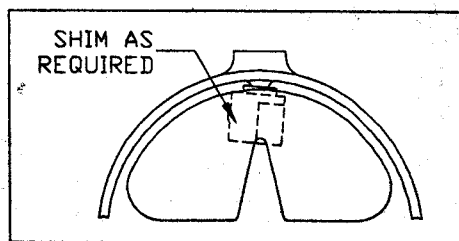

Figure 6-3: Placement of shim(s) to obtain proper clamping action between cover plates of electrical reed vibrator and reed holder.
8. If no clamping action as described in step 7 is experienced, place a shim on the end of the reed holder where the rear cover plate will bear. (see Figure 6-3). We normally use 1, 2, or 3 thicknesses of ordinary masking tape. If more than two